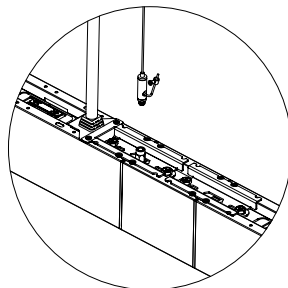

Figure 6
3. Attach the Suspension Cable to the Connection Plate. (Fig. 6 & 7)